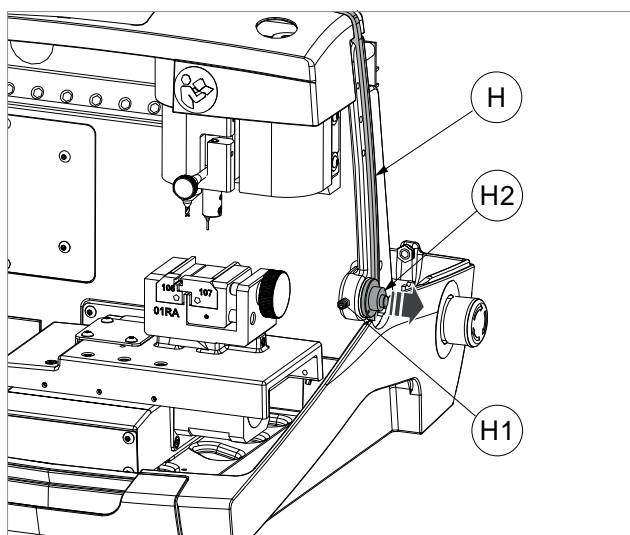

Fig. 64
- 5) Remove the top cover (E).
- 6) Remove the protective shield (C). Take care not to lose the 4 curved spring washers (T).
- 7) Loosen the grub screw (H1) and move the pawl (H2) outwards (Fig. 64) so that part of the gasket (H) can slide out.
- 8) Loosen the 2 screws (K1) and move the belt cover (K).